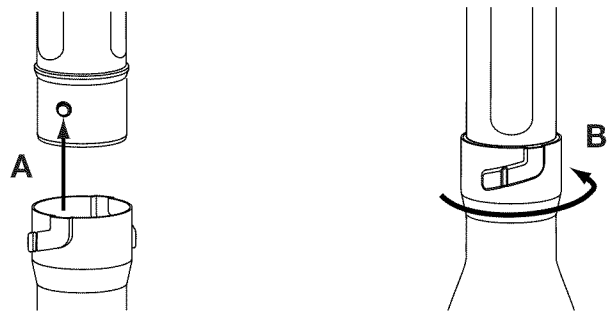

Fig. 4
4. Align the bump slot on the top end of the nozzle with the bump on the bottom end of the lower blower tube (Fig. 4, A).
5. Insert the bump on the lower blower tube into the bump slot on the nozzle (Fig. 4, A).
6. Twist the nozzle clockwise around the lower blower tube until the nozzle bump locks into place (Fig. 4, B).